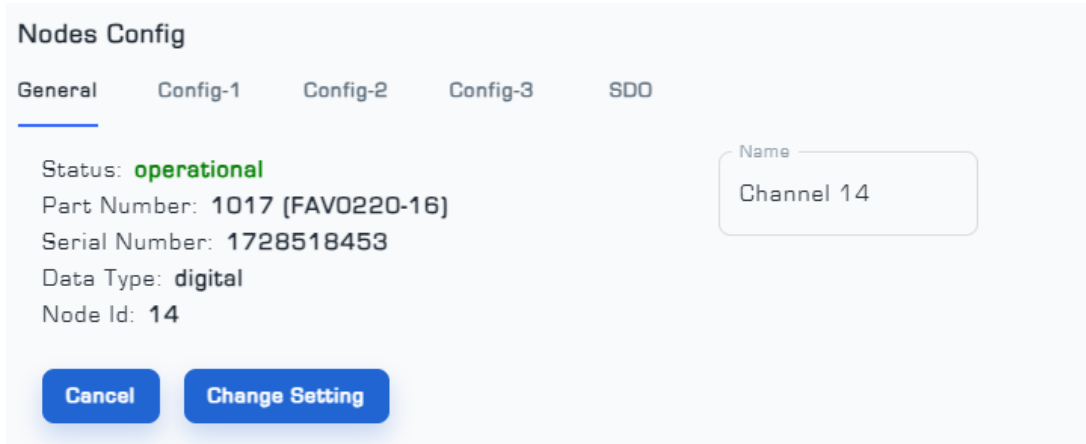

Figure 6: General Menu from Nodes Setting Page
To apply the settings to the Node, click on it to display the Node settings page (Nodes Config) (Figure 6).
- The General menu includes information about the Node status, model, serial number, input data type, and Node number. You can also choose a custom name for the Node and even deactivate it if necessary (Figure 6).